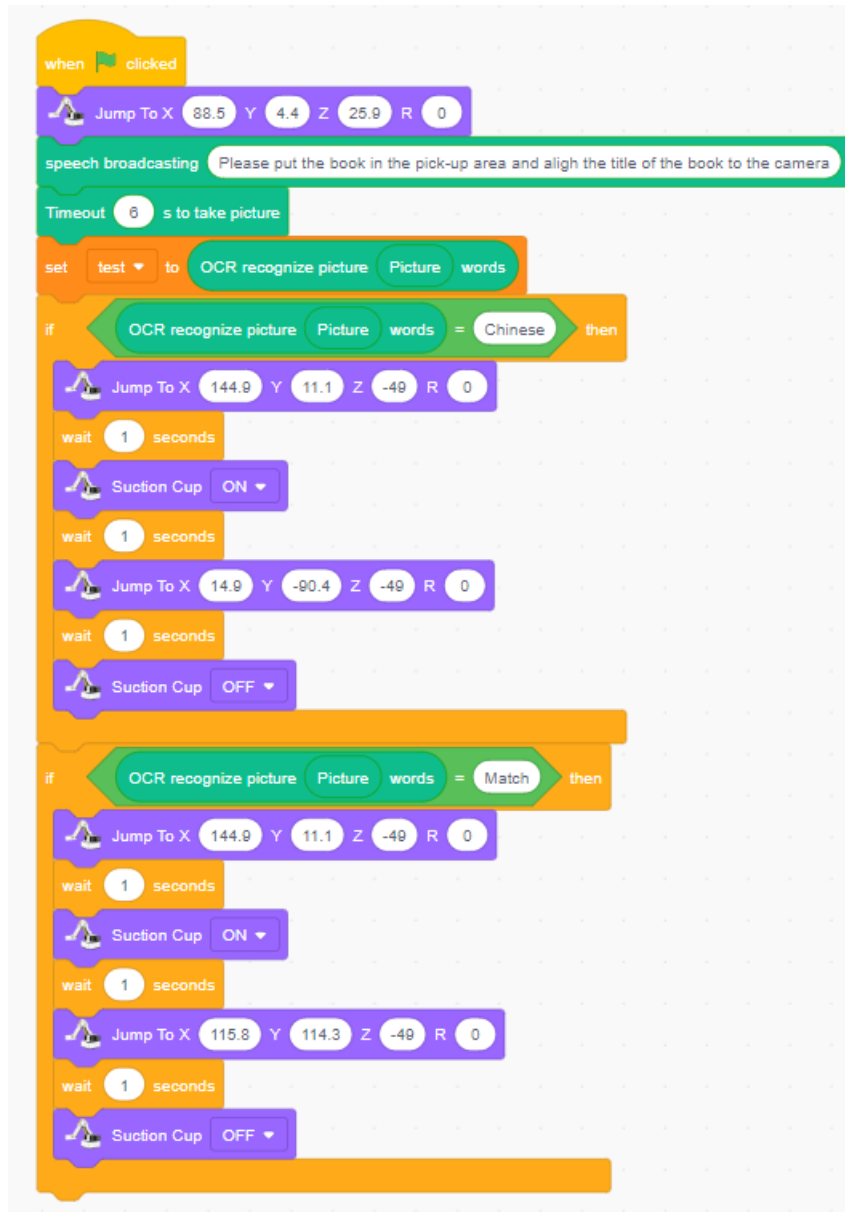

Figure 5.24 Determining whether it is a mathematics book
Step 10: Determine whether the book name recognized is "Mathematics". If yes, suck the mathematics book card to the storage area of the mathematics book, as shown in Figure 5.24.